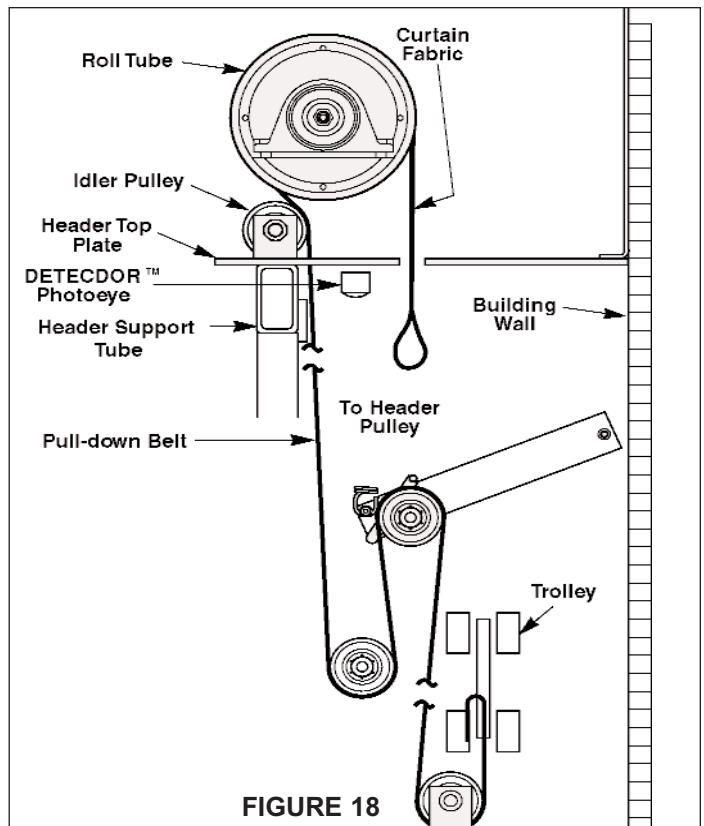

FIGURE 18
- Route pull down belting from the header assembly down to the front of the stationary mounted pulley, around the bottom, up the back over the top of the tension idler pulley, down the back to the front of the floor mounted pulley around the bottom and to the belt buckle, **Figure 18**.